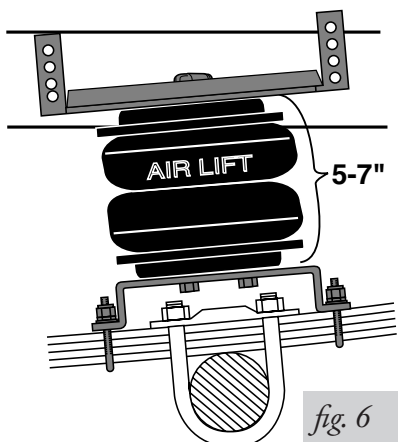

fig. 6
4. Align the assembly vertically and horizontally. The distances between points X and Y (Figs. 6 & 7) should be approximately equal, between 5" and 7" at normal ride height.